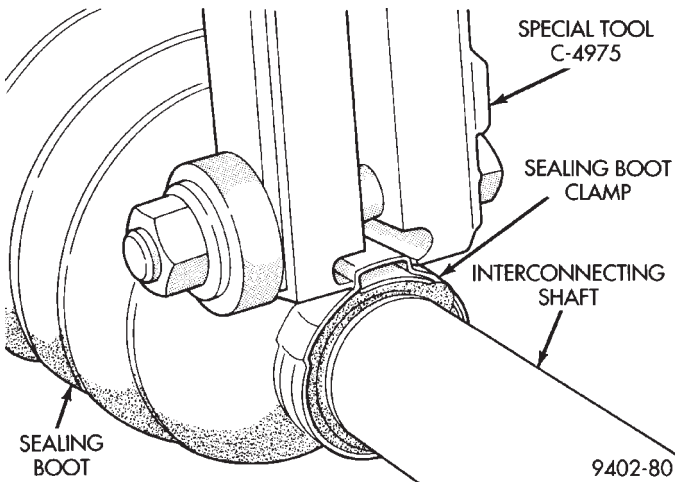
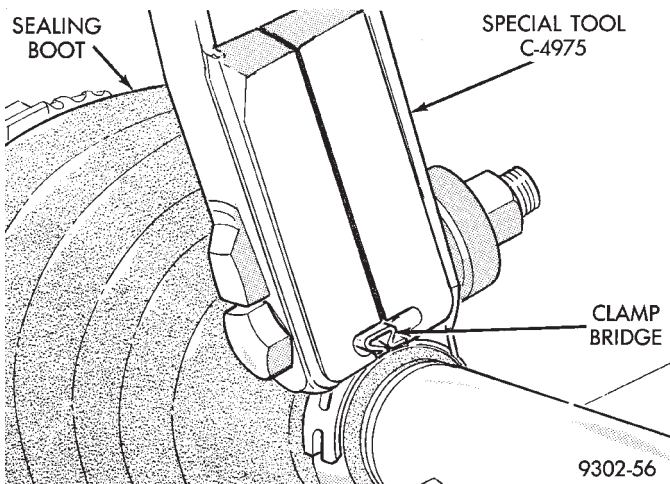

Fig. 29 Crimping Tool Installed On Sealing Boot Clamp
Fig. 30 Sealing Boot Retaining Clamp Installed
(6) Install inner tripod joint seal boot to interconnecting shaft clamp evenly on sealing boot.
(7) Clamp sealing boot onto interconnecting shaft using Crimper, Special Tool C-4975 and the following procedure. Place crimping tool C-4975 over bridge of clamp (Fig. 29). Tighten nut on crimping tool C-4975 until jaws on tool are closed completely together, face to face (Fig. 30).